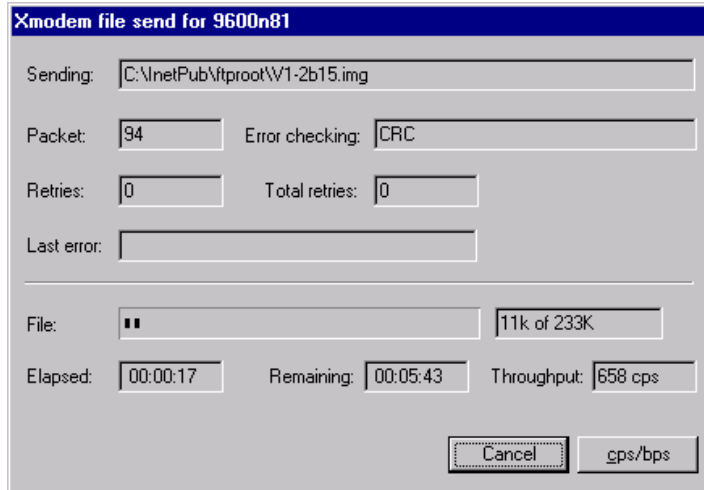

Figure 5-55 Xmodem file send Window
Step 22. Click **Send** to transfer the *.img firmware file to the M3/M4 Wireless Adapter. The **Xmodem file send** window of Figure 5-55 will appear displaying the progress of the firmware transfer.